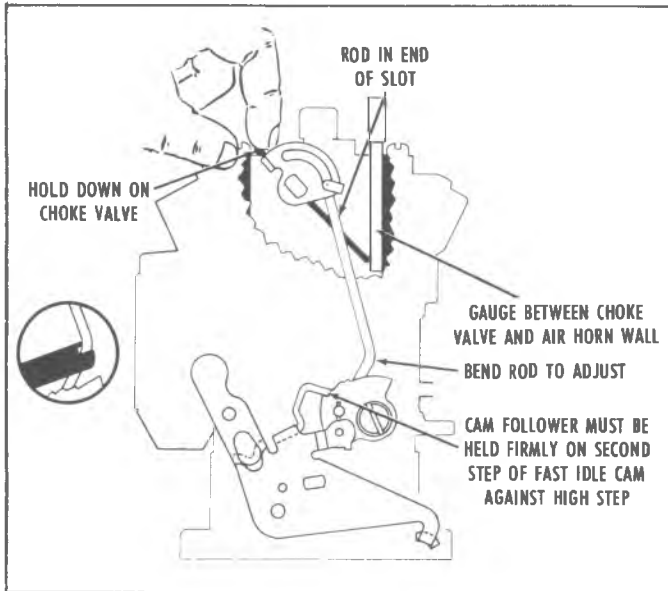

Fig. 4C--Choke Rod (Fast Idle Cam) Adjustment (MV)
**CHOKE ROD (FAST IDLE CAM) ADJUSTMENTS MV (Fig. 4C)**